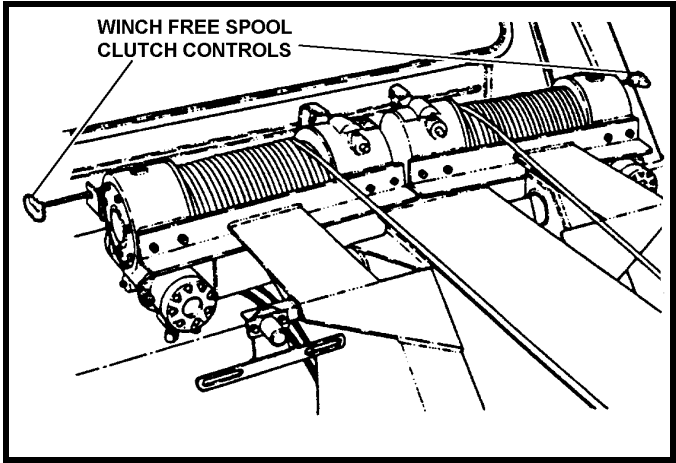

FIGURE 3.6
- 3.8** Your wrecker is also equipped with Winch Free Spool Clutch Controls located at each winch (manual) or on either side of the wrecker body (air operated). These controls are used for allowing the winches to freespool for payout of cable. See Figure 3.6.